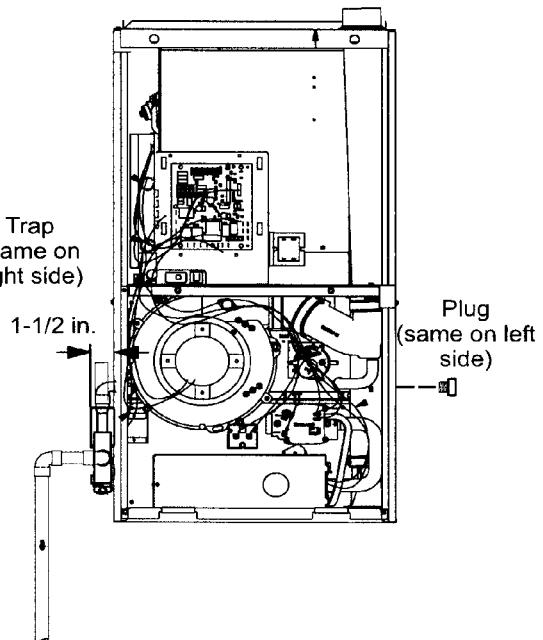

Figure 38
This unit is designed for either right or left side exit of condensate piping in downflow applications. Refer to Figure 38 for condensate trap locations.
2. Use a large flat head screw driver or a 1/2" drive socket extension and remove plug (Figure 38) from the cold end header box at the appropriate location on the side of the unit. Install provided 3/4 NPT street elbow fitting into cold end header box. Use Teflon tape or appropriate pipe dope.